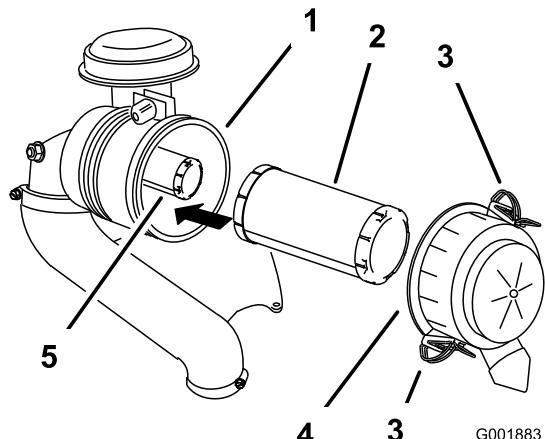

Figure 40
3. Release the latches on the air cleaner and pull the air-cleaner cover off the air-cleaner body (Figure 40).
- Gently slide the primary filter out of the air-cleaner body (Figure 40).
- If you are replacing the inner filter, carefully slide it into the filter body (Figure 40).
- Carefully slide the primary filter over the safety filter (Figure 40).
- Install the air-cleaner cover and secure the latches (Figure 40).